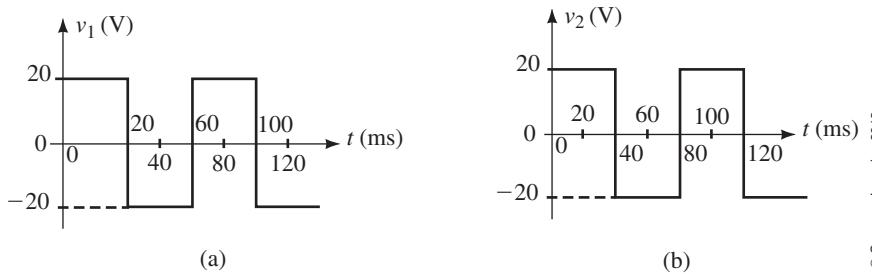

FIGURE 25–59
14. Repeat Problem 13 for the periodic waveforms shown in Figure 25–59.
15. A composite waveform is made up of the two periodic waves shown in Figure 25–60.